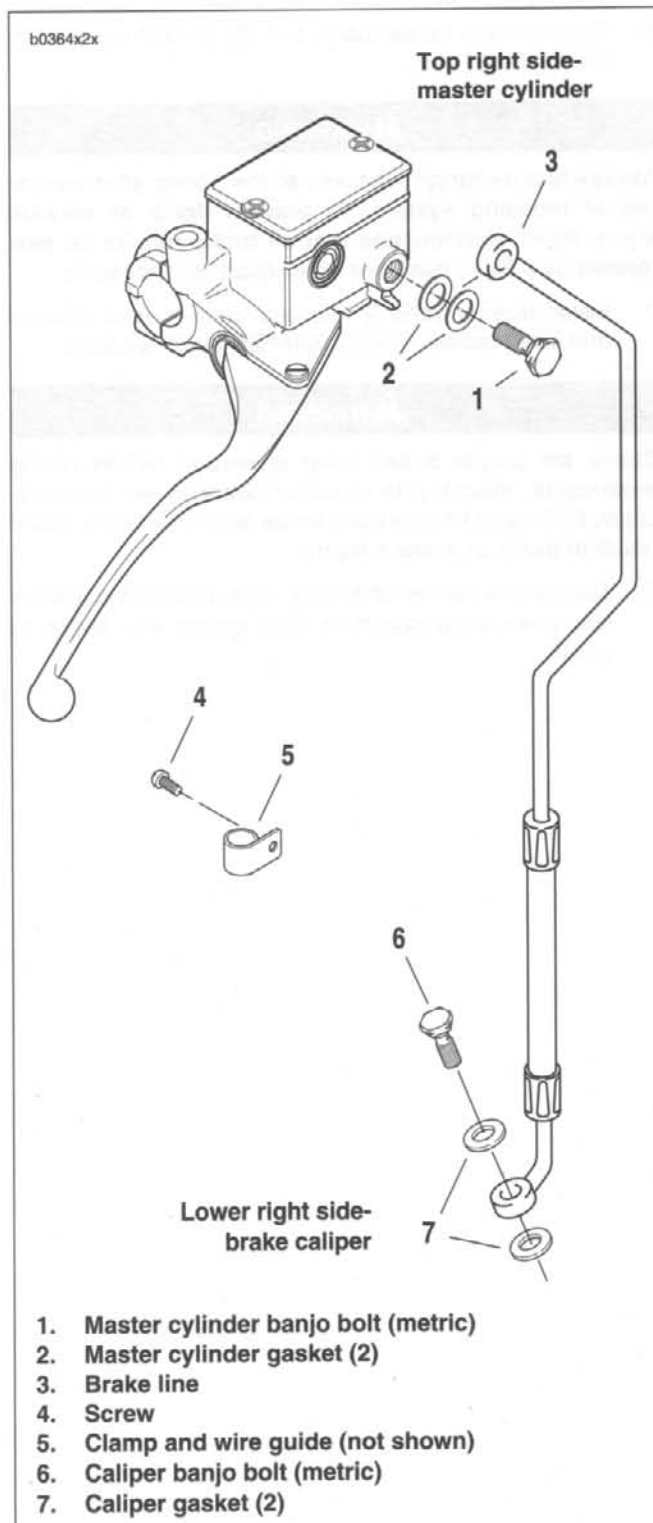

Figure 2-41. Front Brake Line
2. See Figure 2-41. Remove screw (4) to detach brake line clamp and wire guide (5) from right side of lower triple clamp.
1. See Figure 2-41. Connect brake line to master cylinder using two **new** gaskets (2) and banjo bolt (1) (metric). Loosely install bolt into master cylinder.
3. See Figure 2-41. Connect brake line to caliper using two **new** gaskets (7) and banjo bolt (6). Loosely install bolt into caliper.
5. See Figure 2-41. Tighten master cylinder banjo bolt (1) (metric) to 16-20 ft-lbs (21.7-27.1 Nm).
6. Tighten brake caliper banjo bolt (6) (metric) to 16-20 ft-lbs (21.7-27.1 Nm).